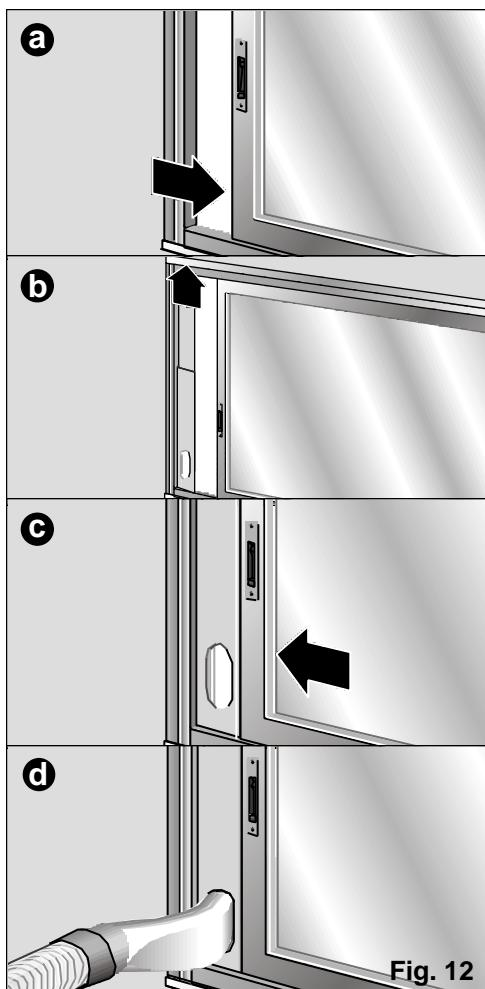

Fig. 12
- The sliding window/balcony installation accessory supplied with your appliance can also be used (See "Description of accessories"), Fig. 12 : a, b, c, d. This accessory can be used for both horizontal and vertical windows.